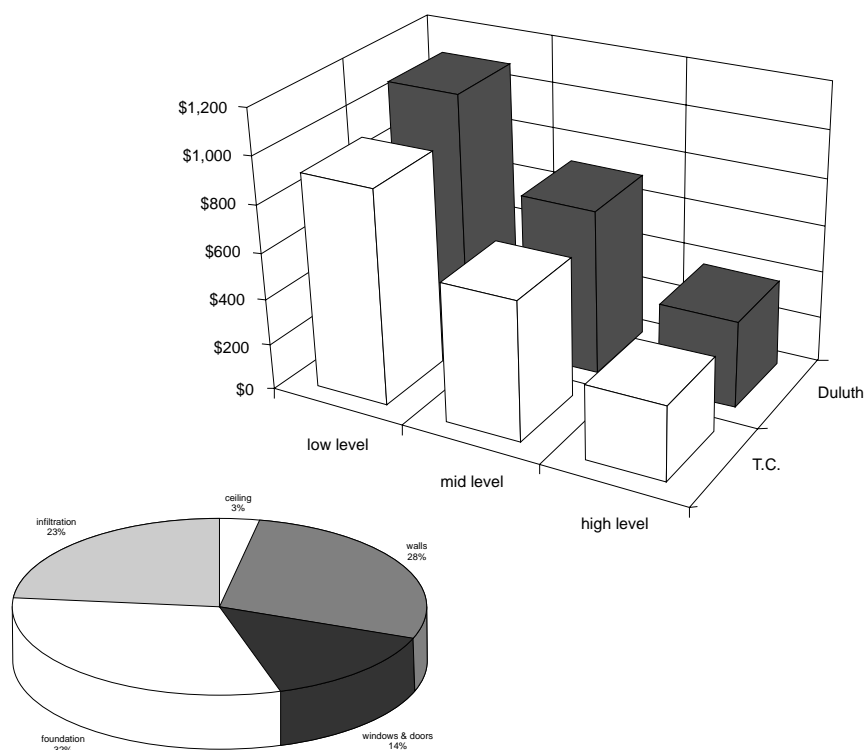

Figure 2:
- Wear protective clothing (Figure 2). Consider buying a disposable coverall to use over clothing. Handling insulation can temporarily irritate the skin, so keep shirt sleeves rolled down and wear gloves and always use a face mask rated for asbestos. When handling cellulose, do not wear contact lens. Always wear goggles. When you are done, take a cold shower. The cold water closes your pores and allows you to wash off the insulation. If you are working around old vermiculite, do not stir it up, since this material often contains asbestos.